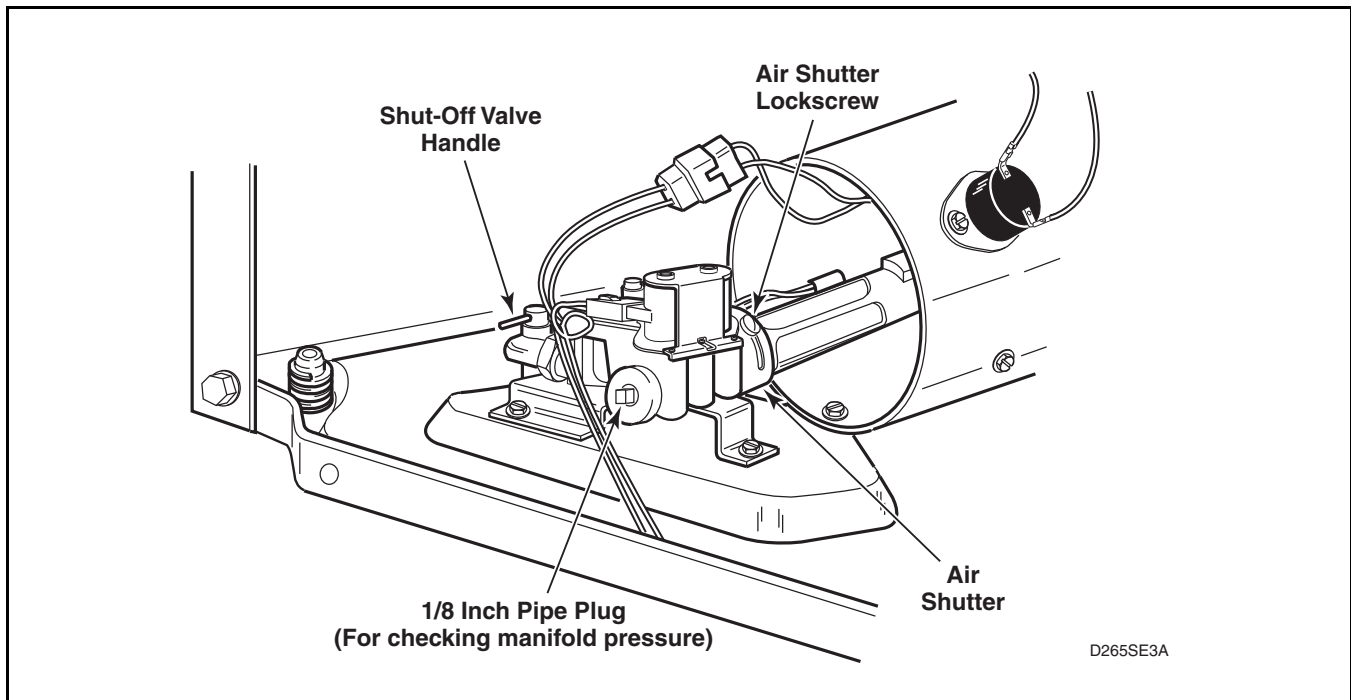

Figure 19
- e. Allow the dryer to operate for approximately five minutes, then loosen the air shutter lockscrew. Refer to *Figure 19*.
- g. After proper flame is obtained, tighten air shutter lockscrew firmly. Refer to *Figure 19*.